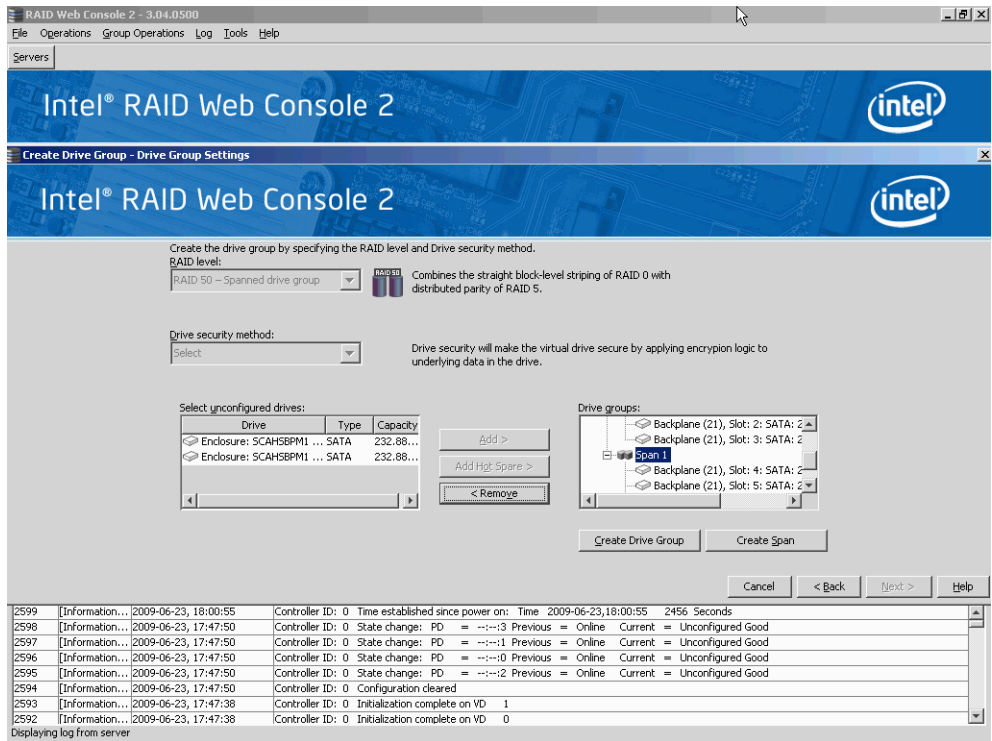

Figure 50. Span 0 and Span 1 of Drive Group 0
- e. The selected drives appear under **Span 1** below **Drive Group 0**, as shown in Figure 50